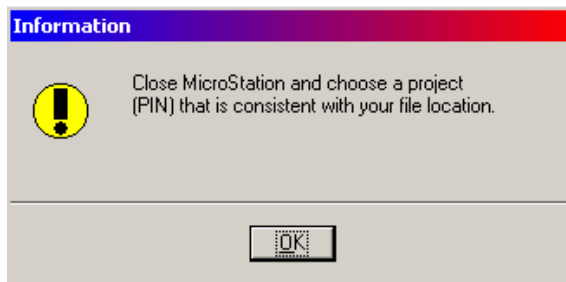

Figure 28-1: Close MicroStation and pick correct PIN.
- ! If you get warning stating that you need to “Close MicroStation and choose a project (PIN) that is consistent with your file location” (Figure 28-1), it means that you entered MicroStation incorrectly. This is a safety measure to insure that the user is going to write the correct information into the title boxes. This is all based on the *Project* pull down matching the PIN you are working on. Close MicroStation if you get this error and go back to **Step One** and try again. If you still get an error, contact CADD Support personnel.